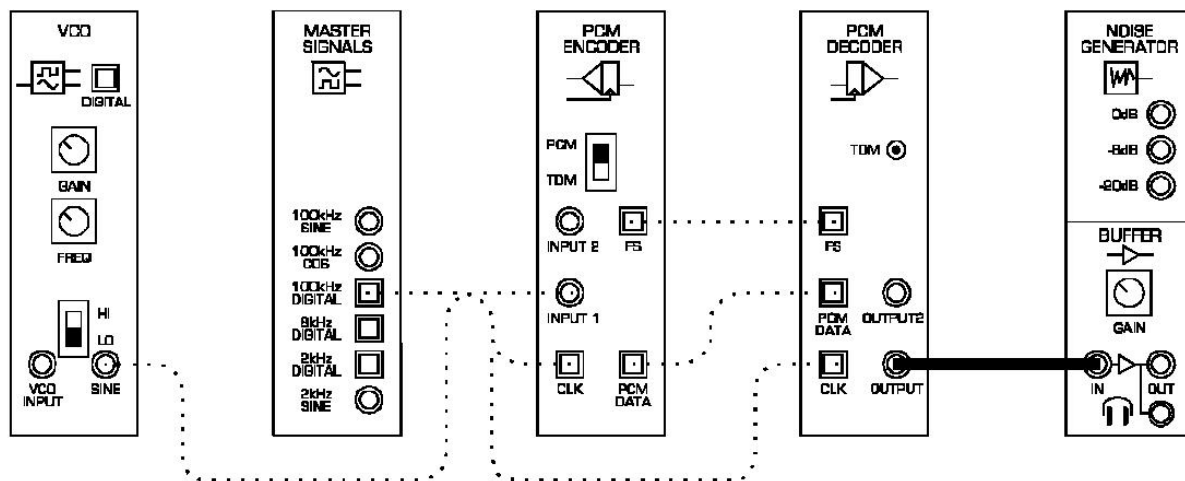

Figure 9:
5. Add the Buffer module to the set-up as shown in Figure 9 leaving the scope's connections as they are.